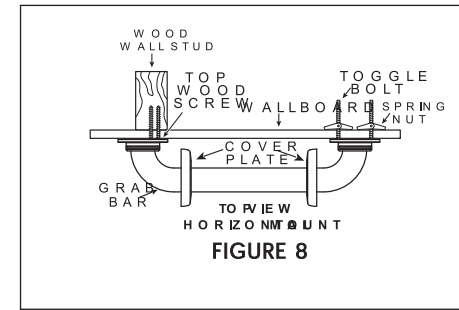

FIGURE 8
- Position the end of the Grab Bar with the TOGGLE BOLTS attached so that you can push the spring nuts and butt ends of the TOGGLE BOLTS through the holes that have been drilled. The spring nuts *must be completely* through the holes in the wall (see Figure 8).
- Pull the TOGGLE BOLTS toward you and finger tighten the bolts to be sure that spring nuts have opened fully against the back side of the wall (see Figure 8). If the spring nuts have not opened fully, loosen the BOLTS and repeat Step 8.
- Repeat Step 5 for the remaining two (2) WOOD SCREWS going into the wood wall stud.
- On the end that will be mounted into wallboard, use the 3/8-inch power drill and 5/8-inch drill bit to drill three (3) holes where marked. **NOTE: If installing Grab Bar over ceramic tiles, the 5/8-inch carbide drill bit will be needed for drilling through tile, in order to prevent damage to tiles. Once a hole has been drilled through the tile, use the 5/8-inch drill bit to drill through the backing support for the tile.**
- Insert one (1) WOOD SCREW into the end of the Grab Bar that will be installed into the wood wall stud. Screw into wall and wall stud (HAND TIGHTEN ONLY) (see Figure 8).